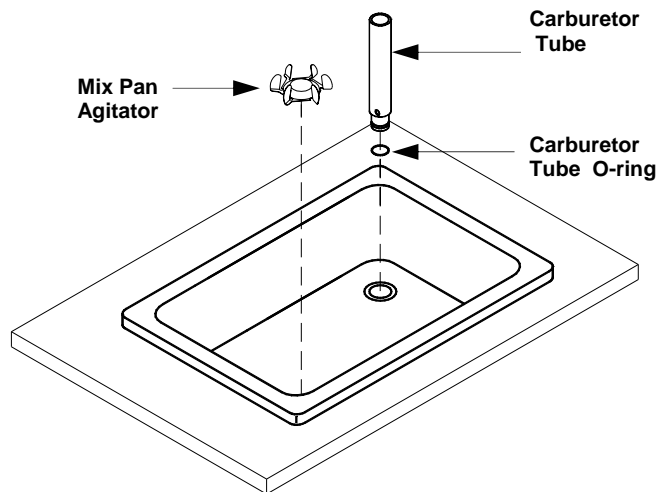

Fig. 10
4. Place a small amount of **Sanitary Lubricant** such as SaniGel (p/n 1150) on the bottom of the mix pan agitator and place the lubricated mix pan agitator in the right front corner of the mix pan as you face the machine. Position the agitator until you feel the magnets of the agitator engage the magnets of the drive system beneath the mix pan - see Fig. 10.